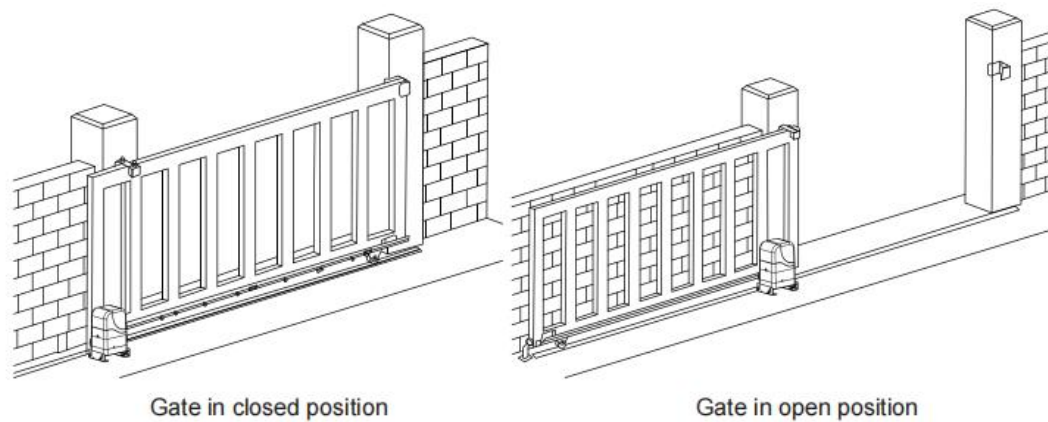
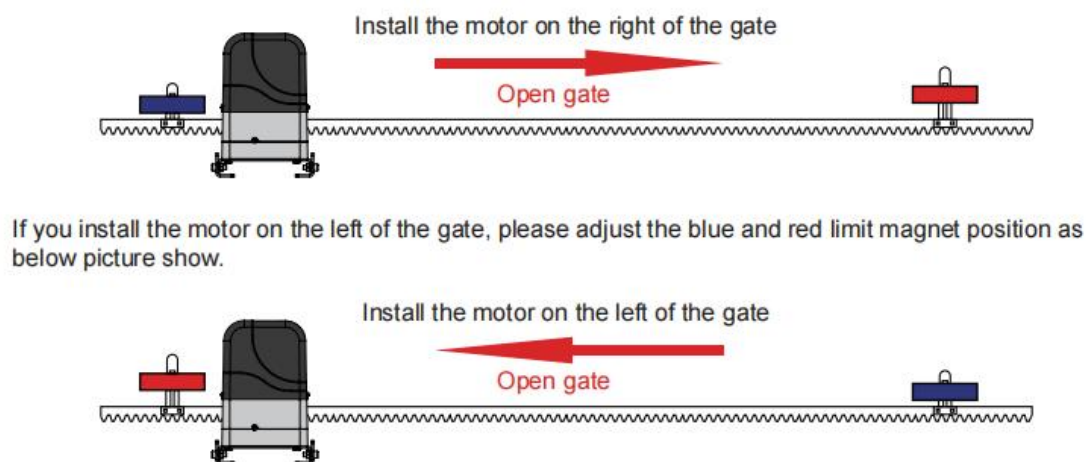
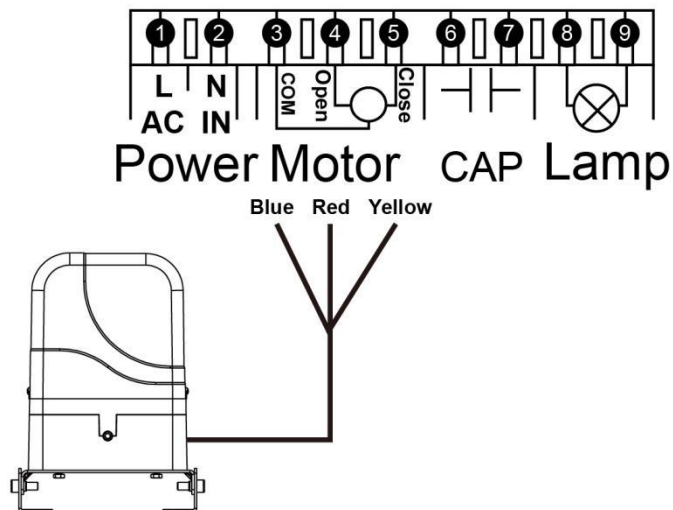

Fig 5
Fig 11
Fig 13
If your gate needs to open from the right-hand to the left-hand (Fig 5), your motor needs to be mounted on the left-hand side as shown, you will need to switch 2 wires of motor (see Fig 13) at random. And swap over two magnets positions (Fig 11).
- ◆ Be sure that the opener is installed in a level and paralleled position and is properly secured and the gate can be moved smoothly push or pull by hand before installing motor(Fig 5).